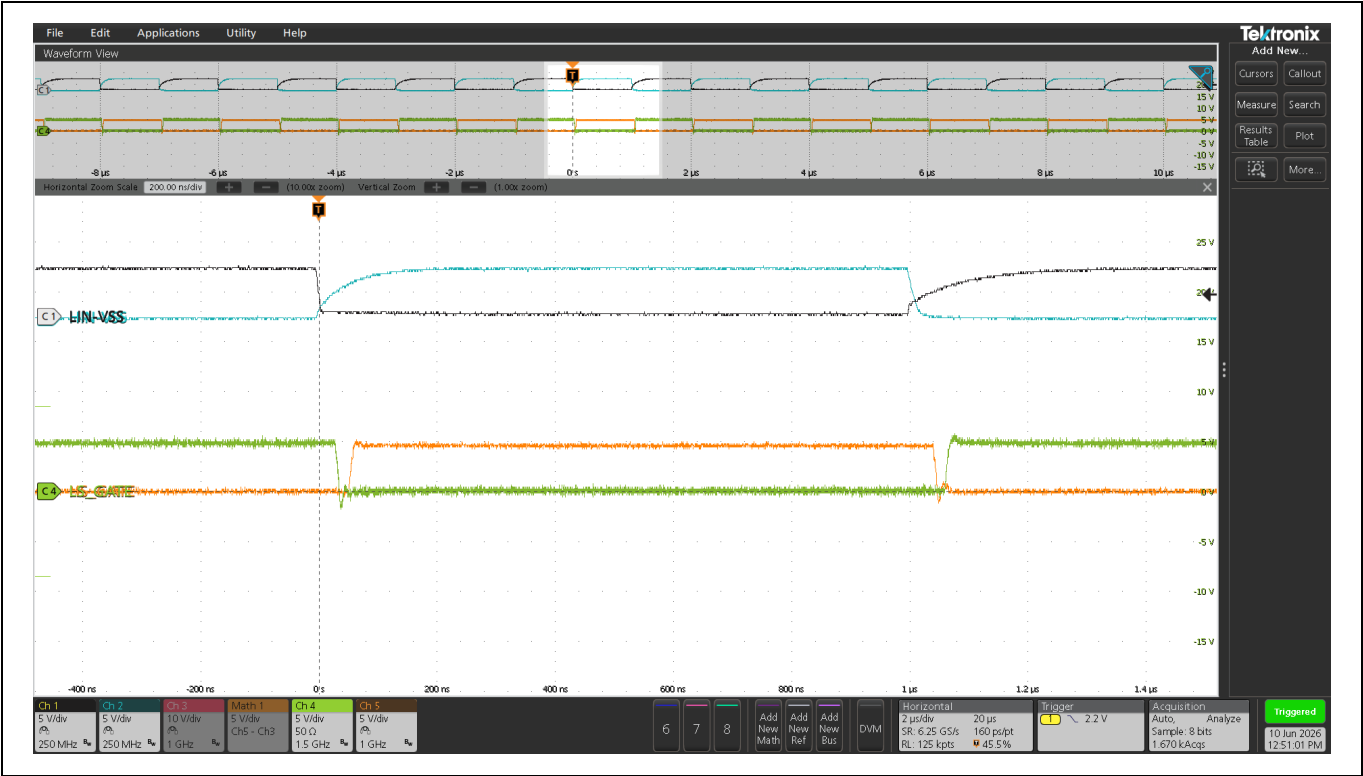
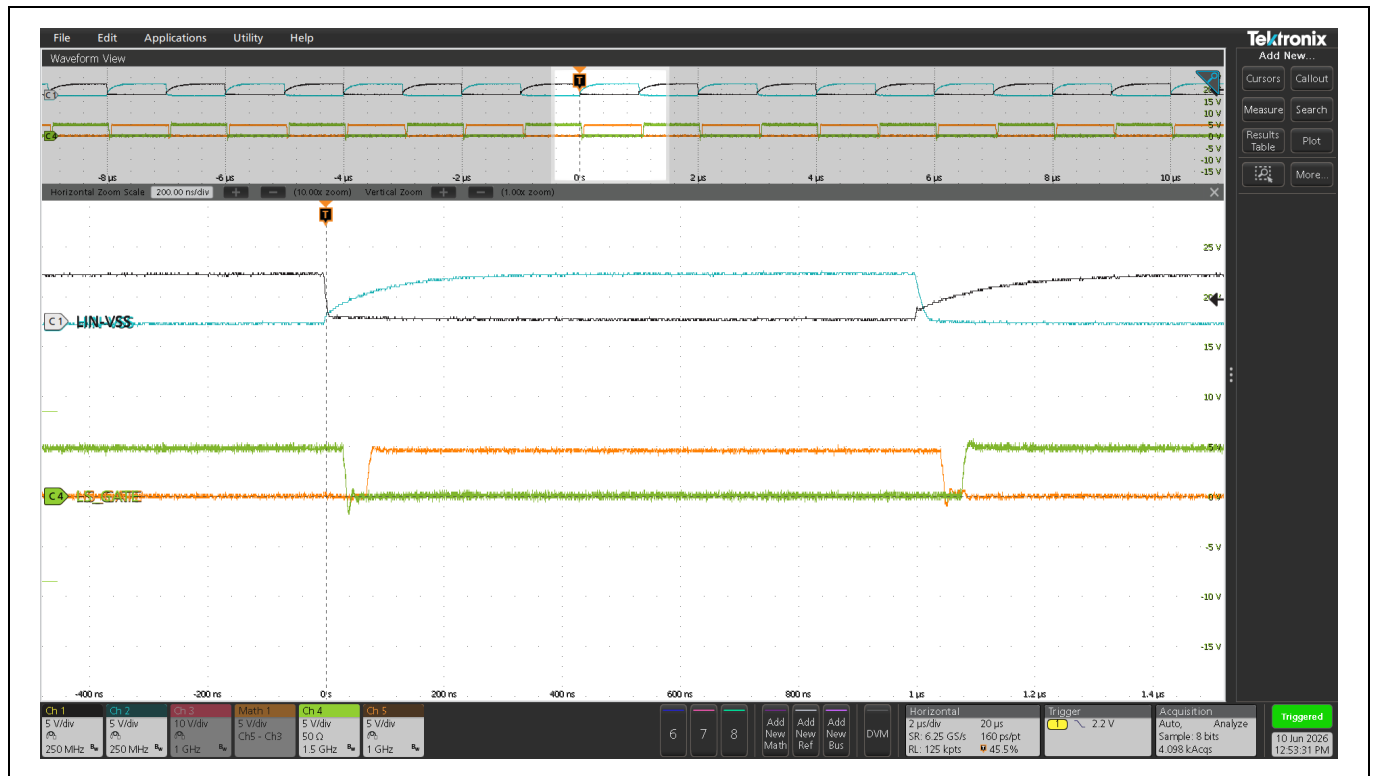

Figure 3 Deadtime between Q1 and Q2 using R8=100 Ω and R9=200 Ω
Figure 4 Deadtime between Q1 and Q2 using R8=200Ω and R9=300Ω
To support a single external PWM input through X23, an optional complementary 5 V PWM signal with tunable deadtime (DT) is generated via an onboard sub circuit through an AND logic gate (U3) and an inverter (U4) with associated RC circuitry. R8 and R9 are 1 k Ω trim pots and C10 and C22 are 330 pF capacitors. Both components together will define the delay on the PWN signals. The DT is defined as the time interval where both GaN HEMT are turned off and it will depend mainly on the RC time constants at each PWM input, but it will also depend on the IN+/IN- logic thresholds, propagation delay, blanking time, driver strength of the driver and gate charge of the FETs. **Always verify that there is sufficient deadtime between the gate drive signals output by U1 and U2 to avoid any cross conduction in the half bridge.** Figure 3 and Figure 4 show the DT for three different R8 and R9 configurations in an open loop configuration. (HIN-VSS) and (LIN-VSS) waveforms are the PWM input pulses while LS_GATE and HS_GATE waveforms are the driver pulses.